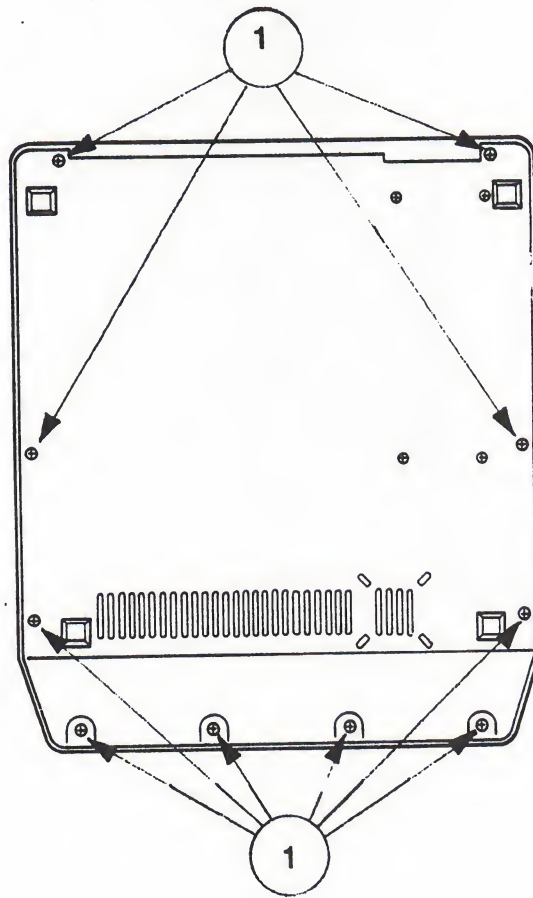

FIGURE 6
3. Remove the ten round head screws from the periphery of the base (See Figure 6, #1). (Note: the new Apple IIe case has only nine screws.)